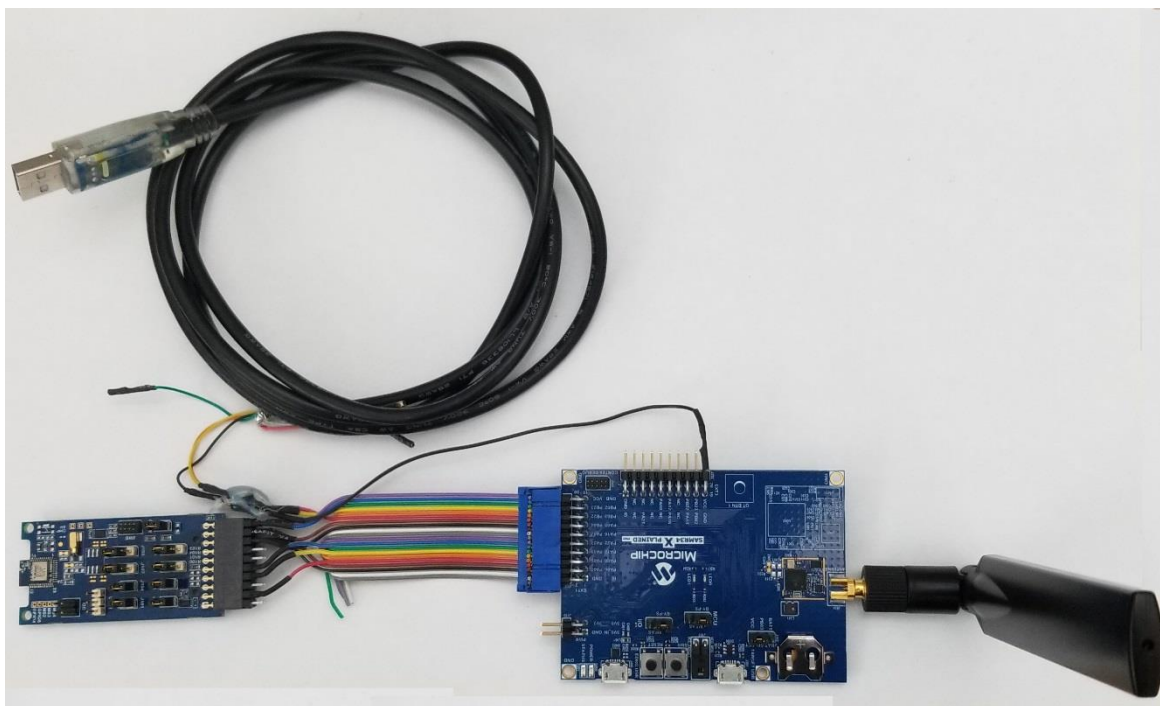

Figure 1: SAMR34 Xplained Pro with BTLC1000-XPro
1. Plugin BTLC1000-XPro board into EXT1 of SAMR34 Xplained Pro board as shown in Figure 1.